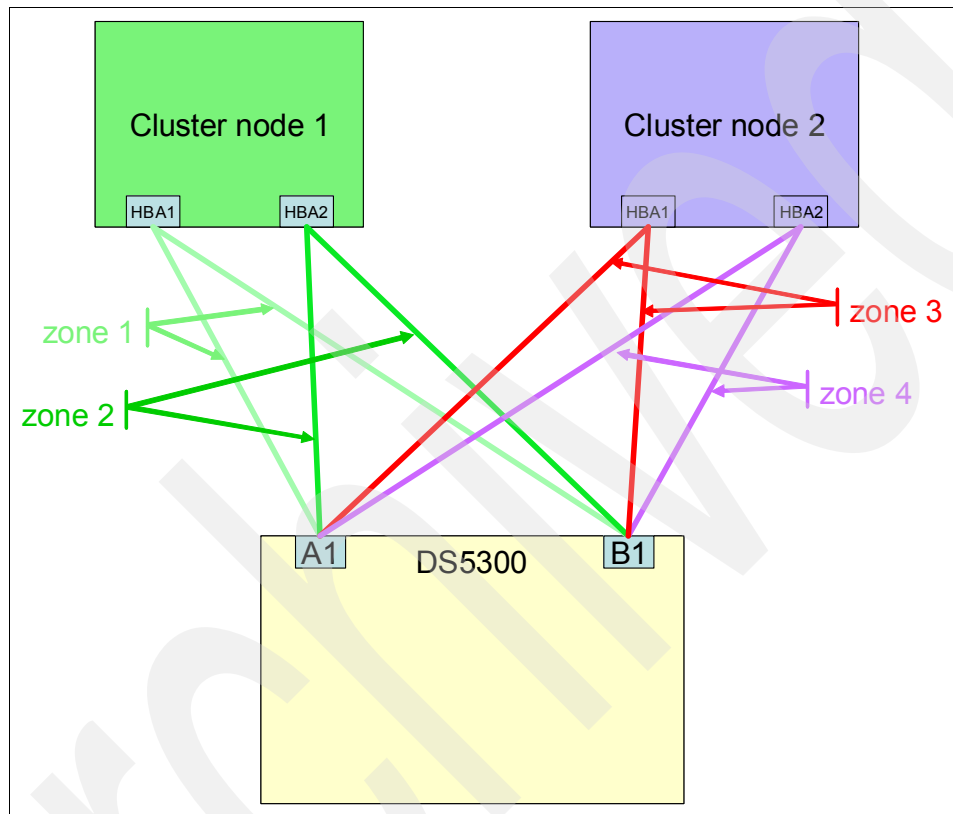

Figure 5-80 Windows 2008 Cluster SAN layout
- ▶ Zoning must be implemented in a single initiator/multi-target fashion, as illustrated in Figure 5-80, where each cluster host HBA port is mapped to both controllers of the DS5000 storage subsystem, enabling redundant paths to the boot and data/shared LUNs from the host HBAs.
- ▶ SAN zoned as in Figure 5-80 that each HBA sees both DS5000 controllers.